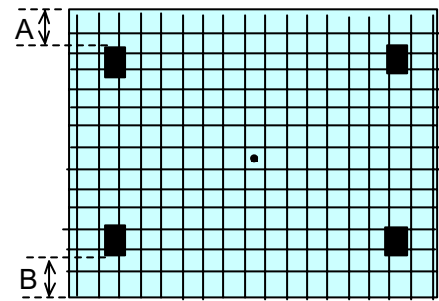

Fig.2-10 NTSC CROSS HATCH
2. Adjust and equalize the distances indicated with A (the upper end to ■ mark) and B (the lower end to ■ mark). (Fig. 2-10)